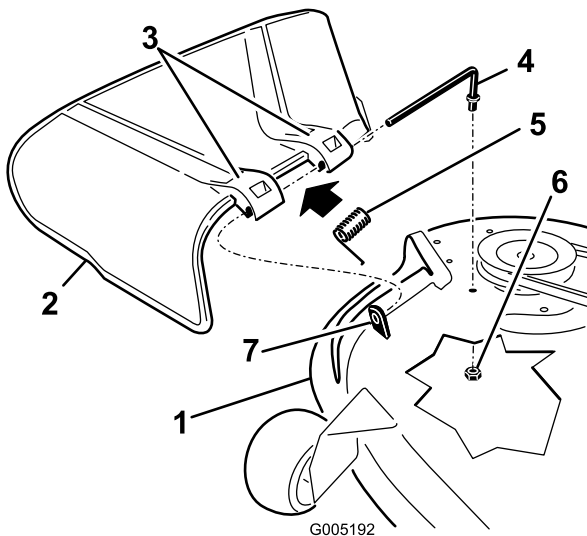

Figure 59
1. Remove the nut (3/8 inch) from the rod under the mower (Figure 59).
2. Slide the rod out of the short standoff, spring, and grass deflector (Figure 59).
4. Replace the grass deflector (Figure 59).
7. Slide rod through the second grass-deflector bracket (Figure 59).
9. Secure the rear end of the rod into the mower with a nut (3/8 inch) as shown in Figure 59.